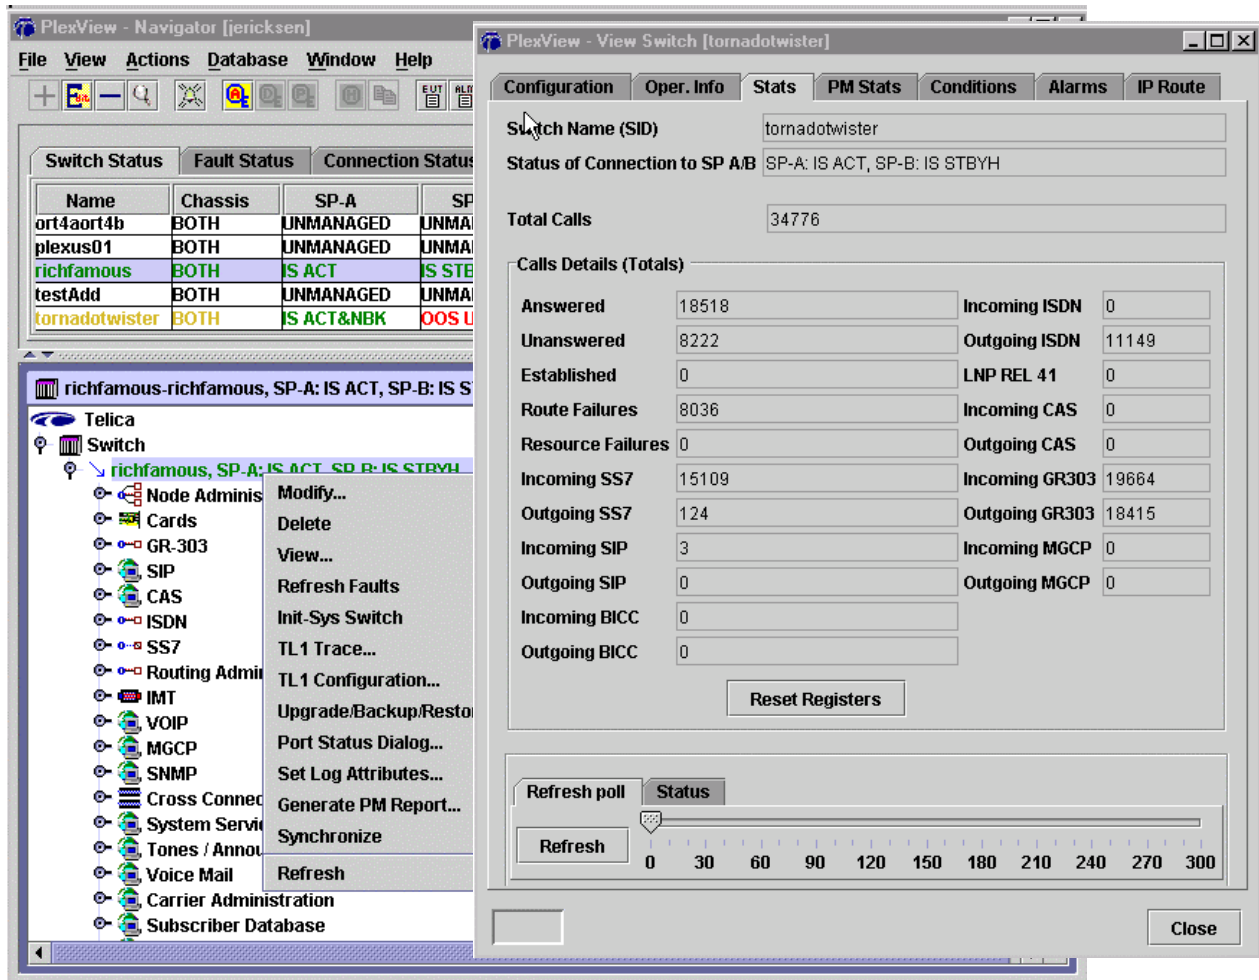

Figure 2. Call Control PM Stats
4. Retrieve current and historical performance data for call control in the Plexus by right-clicking the switch name in the switch status panel or double-clicking the switch to select it for the main panel and then right-clicking the switch name. Select *View, PM Stats* and click *CC* and *Refresh* near the bottom of the panel for the latest information. Refer to Chapter 5 of the EMS User Guide for a description of parameters monitored or to **DLP-571** for parameter information of the associated TL1 command. See Figure 2 for sample screens.